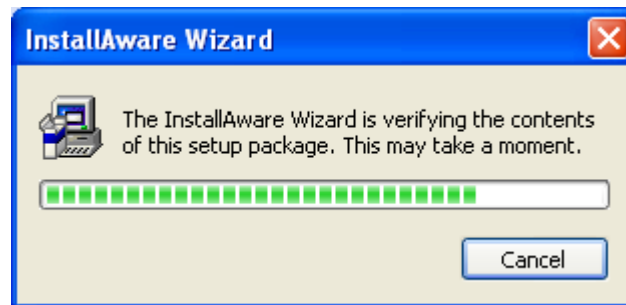

Figure 62 - InstallAware Wizard Verification Window
2. If the MatrikonOPC InstallAware screen does not automatically appear, double-click the installation .exe file. The **MatrikonOPC Server – InstallAware Wizard** verifies its contents (Figure 62).